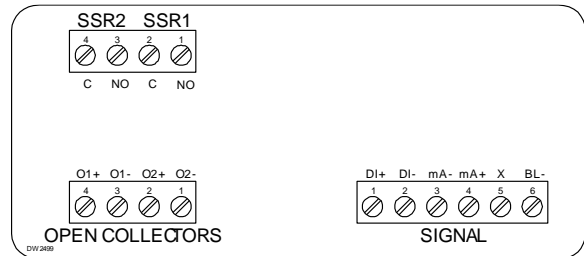
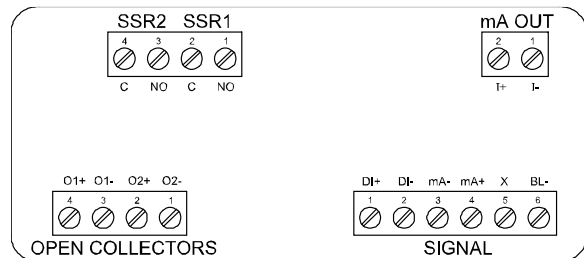

Figure 6. Connector Labeling for PD660#-L2N with 2-Solid State Relays
Figure 8. Connector Labeling for PD660#-L5N with 2 Solid State Relays & 4-20 mA Output
Relay connections are made to a four-terminal connector labeled SSR1 and SSR2 on *Figure 6*. *Connector Labeling for PD660#-L2N with 2-Solid State Relays* and *Figure 8*. *Connector Labeling for PD660#-L5N with 2 Solid State Relays & 4-20 mA Output* on page 19. Each relay's C terminal is common only to the normally open (NO) contact of the corresponding relay.